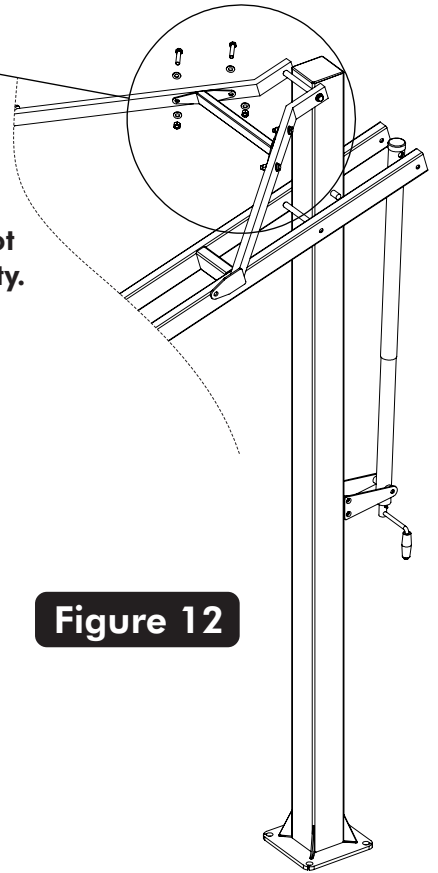

Figure 12
19. With the help of another adult attach the Cross brace (#52) with four Bolts (#50), eight Washers (#51) and four Nuts (#4) as shown in Figure 12 and Detail C.
21. Mount Goal Assembly (#28) to Backboard as shown in Figure 12, using four bolts (#29), washer (#26) and four nuts (#24). Tighten Fasteners but leave loose enough to level rim.